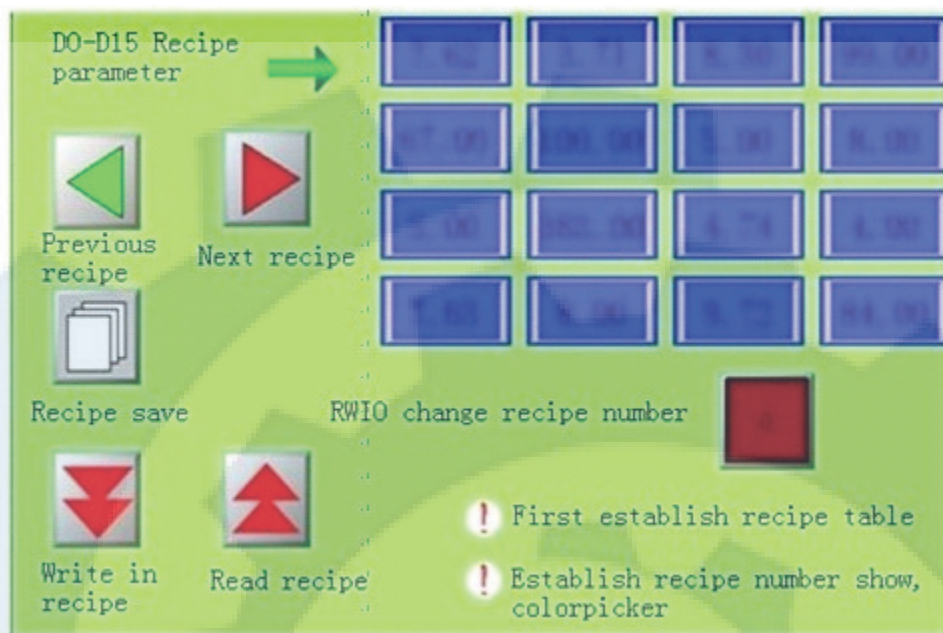

Figure 7-33 Recipe effect diagram
- The screen shown in figure 7-33 can be finished as per above mentioned operations: